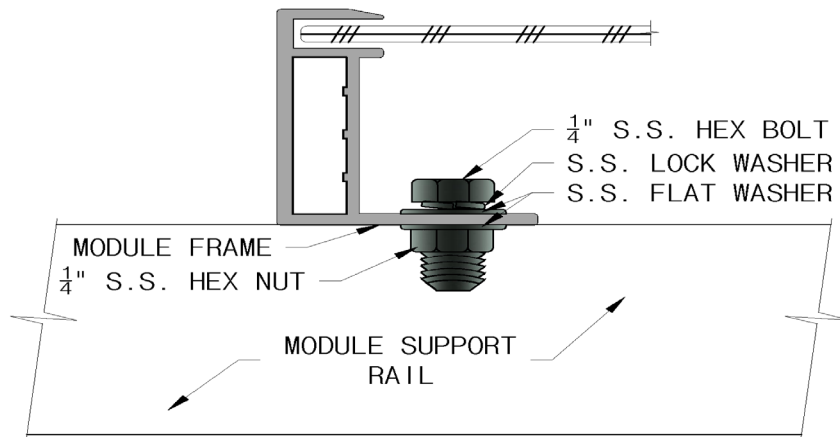

Figure 6B: Illustration of Mounting Hardware
- 2) A quantity of four ¼” (M6) stainless steel bolts with length less than ¾” (20 mm), with four ¼” (M6) stainless steel nuts, washers, and spring washers are recommended for mounting one module. (Figure. 6B).